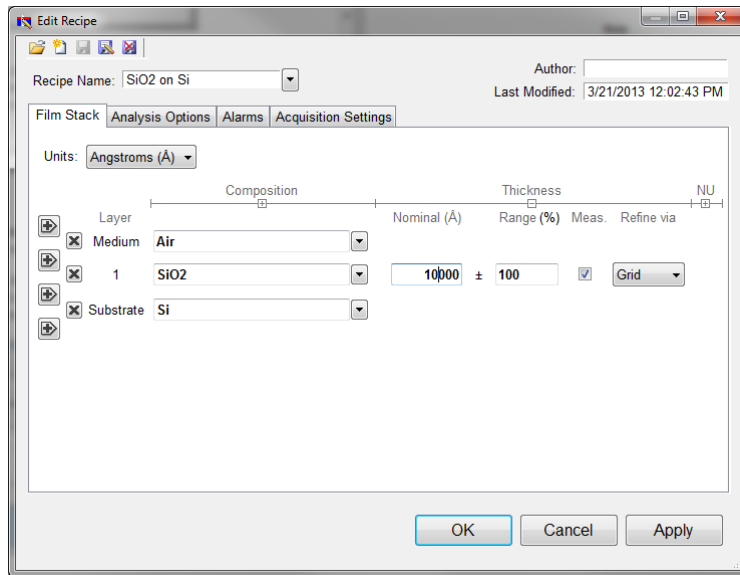

Figure 2
- Film Stack tab: (See Figure 2)
- "Measure" check boxes on this tab are used to designate fitted parameters. (See orange circle in Figure 2)